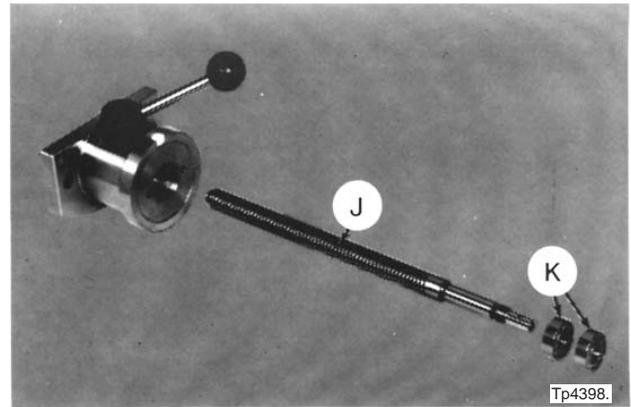

Figure 2.16 - End Cap and Feed Screw
- j) Remove feed screw "J" and two bearings "K", Figure 2.16 .
- g) Replace bearings "K" and feed screw "J", Figure 2.16, in the end cap.